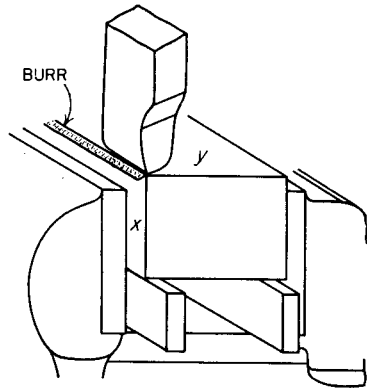

Fig. 2-34.
*Burrs.* Particularly on steel and wrought metal, the last few strokes tend to roll the metal over the corner, forming a burr. This burr is more or less difficult to remove, depending a great deal on the sharpness of the shaper tool. If the surface *x*, Fig. 2-34, over which the burr is rolled, is the next surface to be machined, it will cause no trouble, but if surface *x* is to be used as a seat for finishing the opposite side, or if *y* is to be used as a seat, the burr must be removed.